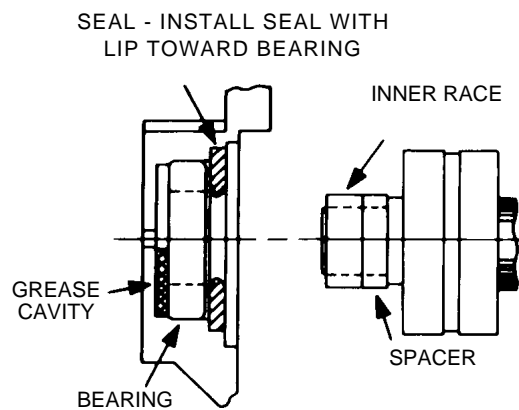

Figure 11-12. Slip Ring End Bearing Assembly
e. Install slip ring end bearing and oil seal. Verify oil seal lip is toward bearing. Stake oil seal in place. Assemble bearing, seal, inner race, and spacer as in Figure 11-12.